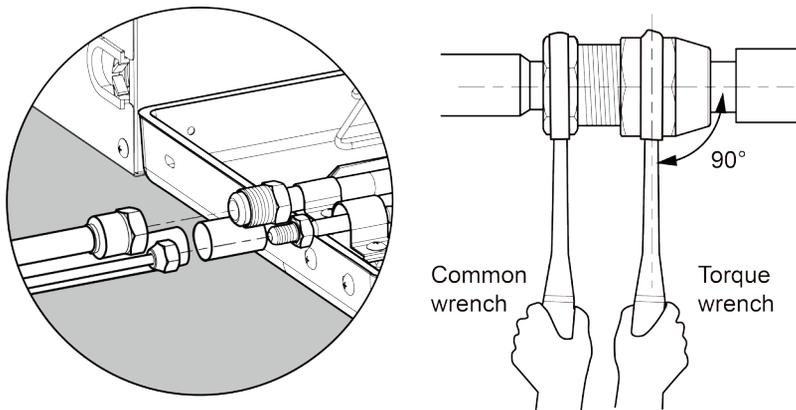

Fig.4.4.1
- (1) Conform to the following principles during piping connection: Connection pipeline should be as short as possible. The height difference between indoor and outdoor units should be as short as possible. Keep number of bends as little as possible. The radius of curvature should be as large as possible.
- (2) Weld the connection pipes between indoor and outdoor unit. Please strictly conform to the requirements for welding process. Rosin joints and pin holes are not allowable.
- (3) When laying the pipes, be careful not to deform them. The radius of bending parts should be more than 200mm. The pipes can not be repeatedly bent or stretched, otherwise the material will get harden. Do not bend or stretch the pipe over three times at the same position.
- (4) Please use a torque spanner to connect union nut on the indoor unit. See Fig. 4.4.1.